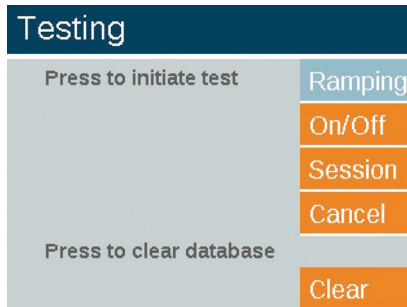

Figure 37: Engineering testing screenshot
3. Navigate to the **Clear** option and press the scroll wheel (Figure 37).